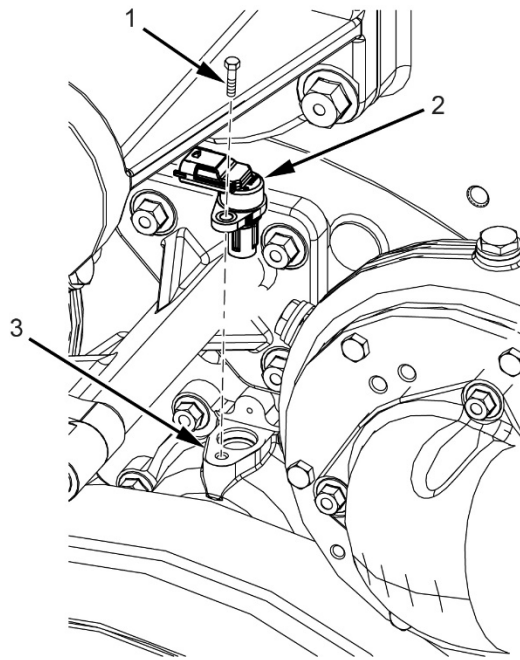

Figure 142.
5. Reinstall the speed sensor (Figure 142, item 2).
6. Loctite sealant 242 to the threads and install bolt (Figure 142, item 1) and secure speed sensor (Figure 142, item 2) to speed sensor seat (Figure 142, item 3). Tighten the bolt to recommended torque.